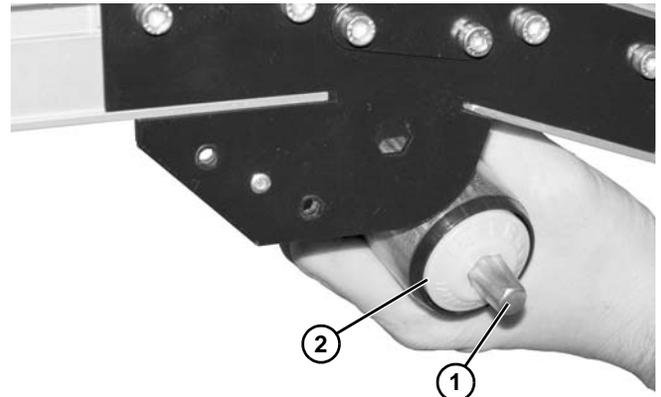

Figure 83
- b. For 5" (127 mm) or wider conveyor, push spring-loaded shaft ends (**Figure 83, item 1**) inward. Install roller (**Figure 83, item 2**).